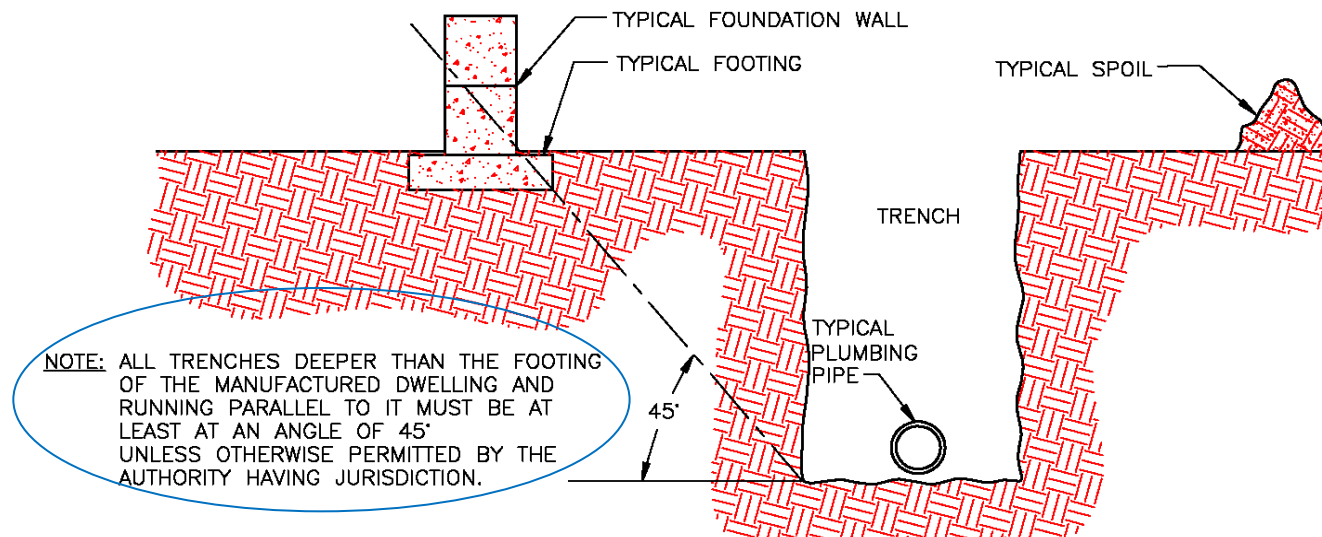

Figure 7-7.1 Typical Footing Setback from Trench
- Drainage piping installed deeper than and parallel to footings must be set away from the footing at a minimum of 45 degrees. See Figure 7-7.1.